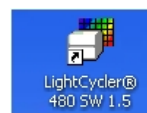

FIG.2
- Start the LightCycler Software by clicking its icon **LIGHTCYCLER®480 SW 1.5** (Fig.2).